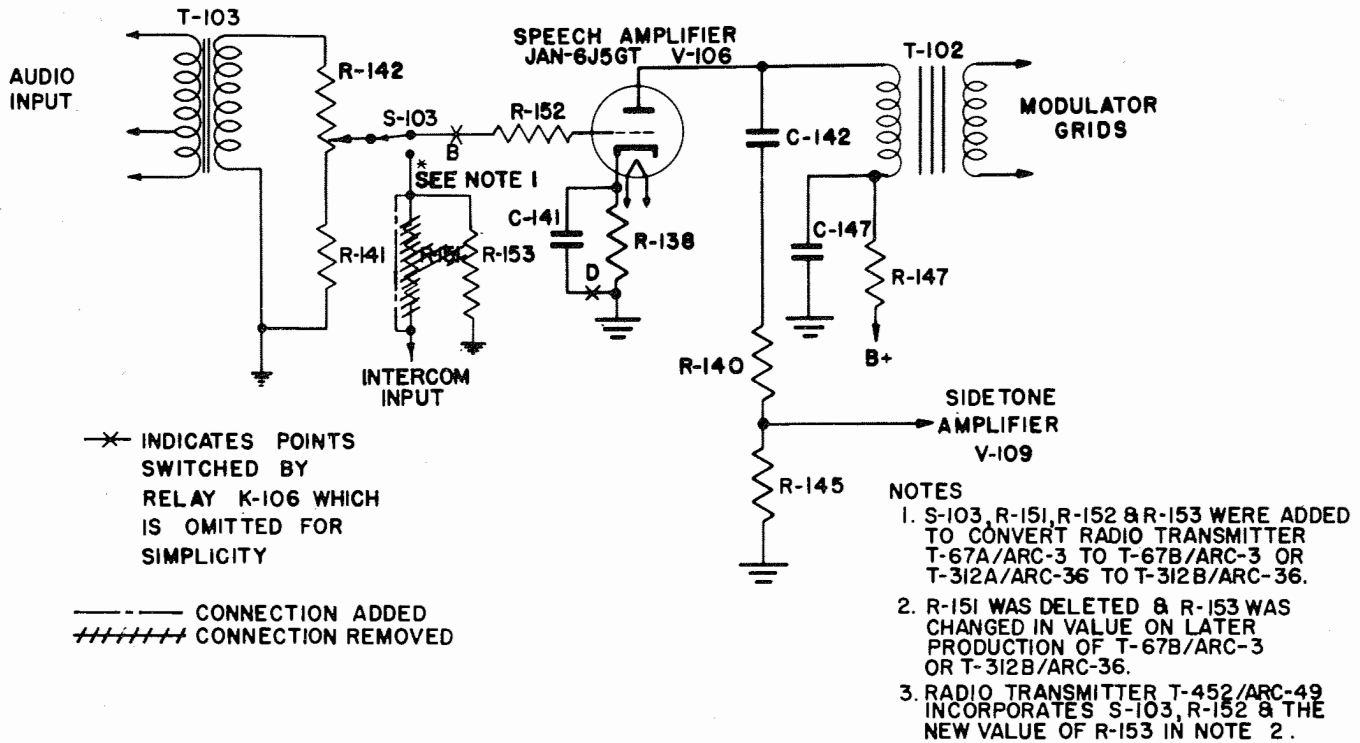

Figure 4-2. Radio Transmitter—Speech Amplifier
(c) SPEECH AMPLIFIER AND TONE OSCILLATOR.—Tube JAN-6J5 (V-106) is used in a class A amplifier circuit that serves to amplify the audio input signal. The output of the tube is fed in parallel to the driver transformer T-102, and to the grid of the sidetone amplifier tube JAN-6V6GT (V-109). (See figs. 4-2 and 4-3.)
1. The speech amplifier tube also serves as an audio oscillator and emits a constant 1000-cycle tone whenever the tone relay (K-106) is closed. Figures 4-2 and 4-3 show the two methods of connecting the tube. For simplicity, relay K-106 has been omitted from the diagrams. Relay K-106 when operated performs the following functions: